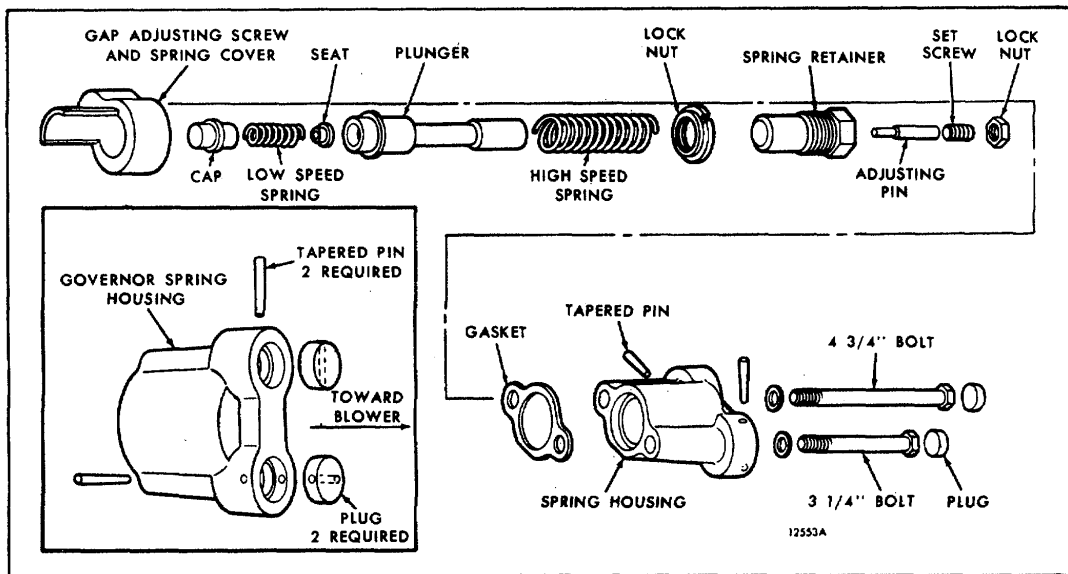

FIG. 6 - Tamper-Resistant Governor Components (Former)
This governor incorporates an adaptable high-speed spring housing to make unauthorized speed setting changes extremely difficult. The new governor spring housing has one inch of additional metal resembling two bosses cast on the bolt head of the housing (Figs. 6 and 7). These bosses are counterbored to accept the two bolts which hold the spring housing on the governor housing and to allow for the installation of plugs over the bolt heads. The plugs are secured in the counterbores by tapered
3. Refer to Figs. 6 and 7 and install the gap adjusting pin and set screw and spring cover and spring assemblies in the governor housing as follows:
5. Refer to Fig. 6 and install the tamper-resistant plugs and pins in the counterbores of the spring housing as follows:
3. Refer to the inset in Fig. 6 and install the new gap screw and spring cover and the high and low-speed spring assemblies, replacing the former retainer with the new longer retainer in the governor housing as outlined under Step 3, Items a through e above.
5. Refer to Fig. 6 or 7 and install the tamper-resistant plugs and pins in the counterbores of the spring housing as outlined under Step 5, Item a through c above.